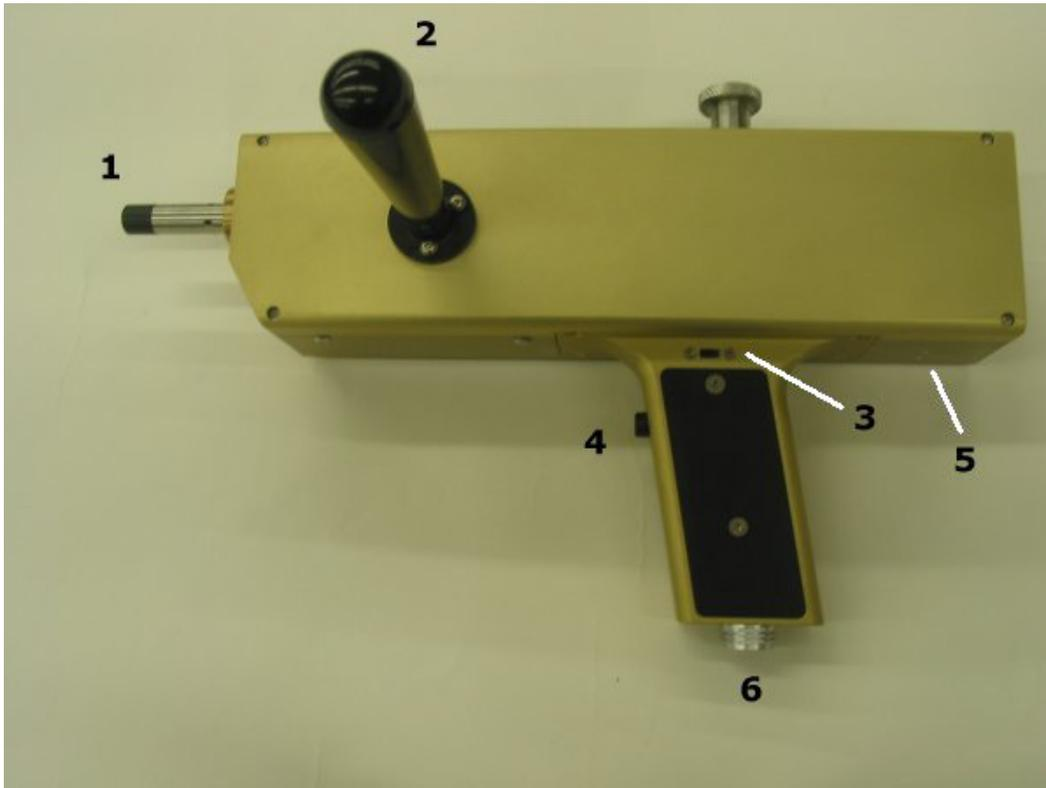

Figure 1
Figure 1 shows the following features:
1. Set ensure the direction switch in **Figure 1** is set to **PULL**.
- g.** Set the desired rotation speed using the pots shown in **Figure 1**.
- h.** Set the desired pull speed using the pots shown in **Figure 1**.